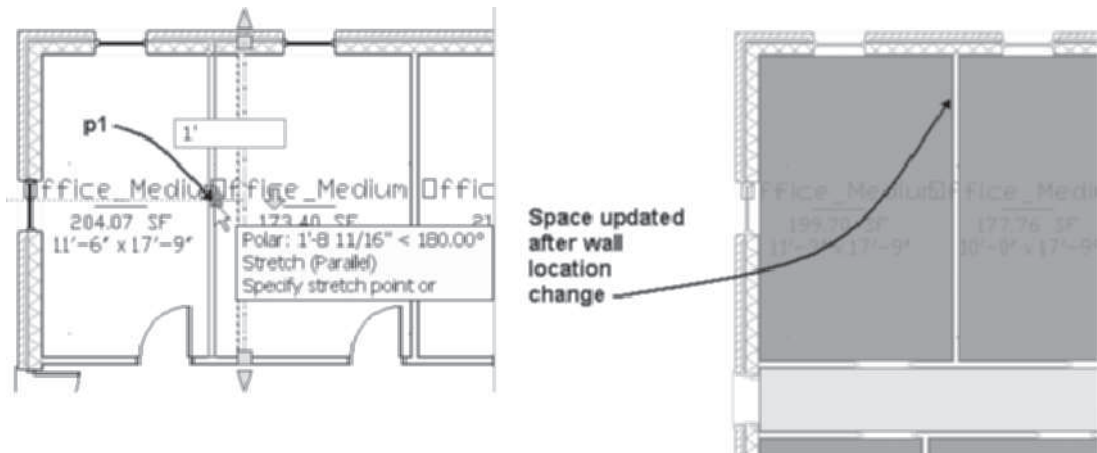

FIGURE 4.14 Spaces updated to fit wall location
13. Select the wall at **p1** as shown in Figure 4.14 and verify that **Bound Spaces** is set to By Style (**Yes**) in the **Properties** palette. Choose the location grip at the midpoint of the wall and move the cursor right. Type 1' [300] in the dynamic input workspace prompt. Press ESC to clear the selection.
14. Choose the **Layer** drop-down list of the Layers panel. Select the light-bulb to turn on the A-Area-Spce-Patt and A-Area-Spce [Aec-Space] layers. The space is updated to fit the new boundary as shown in Figure 4.14.